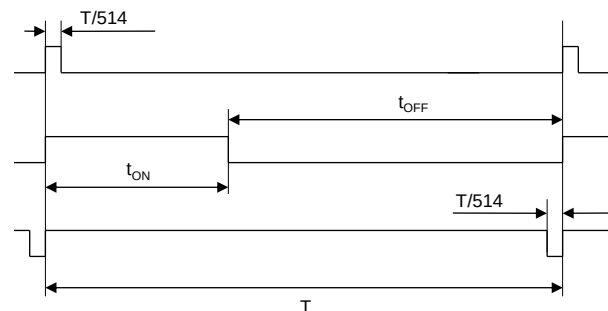

Figure 29: PWM Output Timing
This output provides a logic signal with a duty cycle proportional to the angle of the magnetic field. See the General Characteristics section on page 5 for the pulse-width modulation (PWM) frequency (f_{PWM}). The duty cycle is bounded by a minimum value ($1/514$ of the period) and a maximum value ($513/514$ of the period), so the duty cycle varies from $1/514$ to $513/514$ with a resolution of 14 bits (see Figure 29).
Figure 29 on page 23 shows one PWM signal period. The period (T) is $1 / f_{PWM}$.